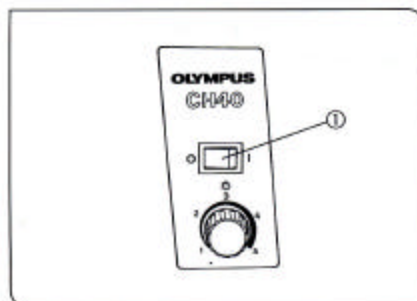

Fig. 10
(Figs. 10,11,12)
- ⚠ Make sure that the main switch (1) is on "O" (OFF) before connecting the power cord. (Fig. 10)